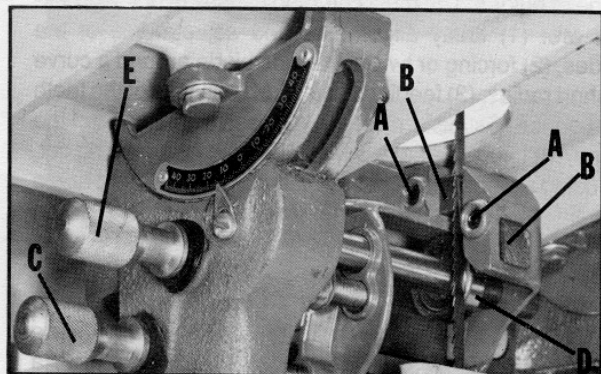

Fig. 29
1. Loosen the two screws (A) Fig. 29, and move the guides (B) as close as possible to the side of the blade, being careful not to pinch the blade. Then tighten screws (A).
2. The front edge of the guide blocks (B) should be adjusted so they are just behind the "gullets" of the saw teeth by turning the knurled knob (C) Fig. 29.
3. The lower blade support bearing (D) Fig. 29, should be adjusted so it is about  $1/64$ " behind the back of the blade by turning the knurled knob (E).